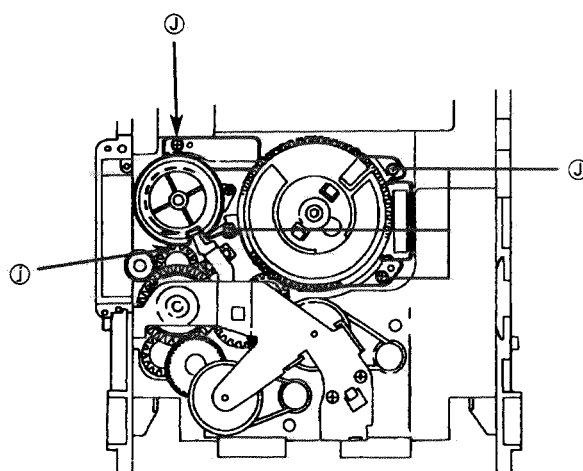

Fig. 35
4. Rotate the Cam gear L so that the select gear's ① is positioned as shown in Fig. 35.
5. Remove 4 screws ① securing the cam unit which includes the cam gear L and Cam R1, R2 ass'y. (See Fig. 35.)